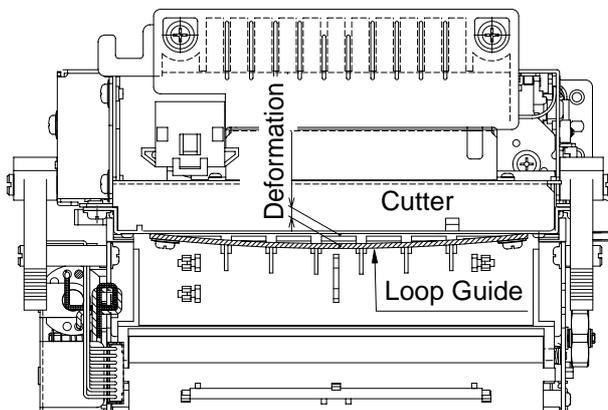

Figure 3
- 2) It is possible, due to sudden environmental changes, that a deformation of the Loop Guide may occur (see Fig. 3), to remove the deformation, reposition the Loop Guide by :